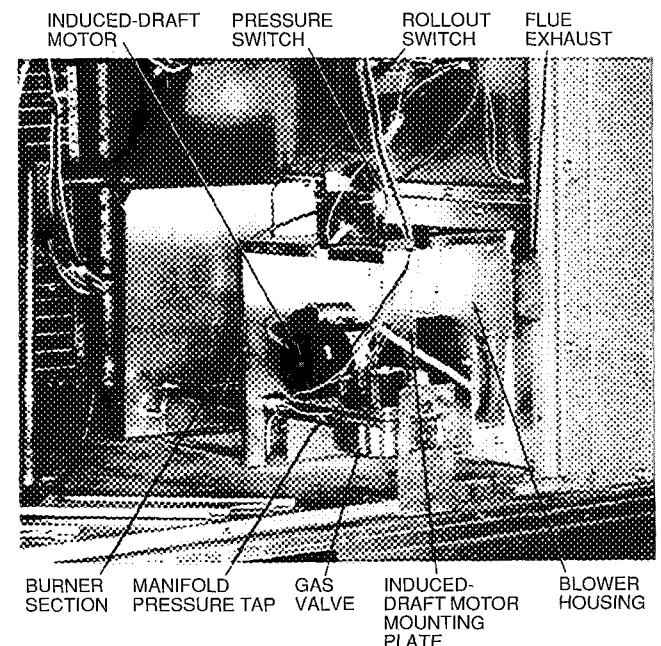

Fig. 21 – Burner Section Details
4. Remove the 7 screws that attach induced draft motor mounting plate to blower housing (Fig. 21).
REMOVAL OF GAS TRAIN (Fig. 21 and 22)
REPLACEMENT OF GAS TRAIN (Fig. 21 and 22)